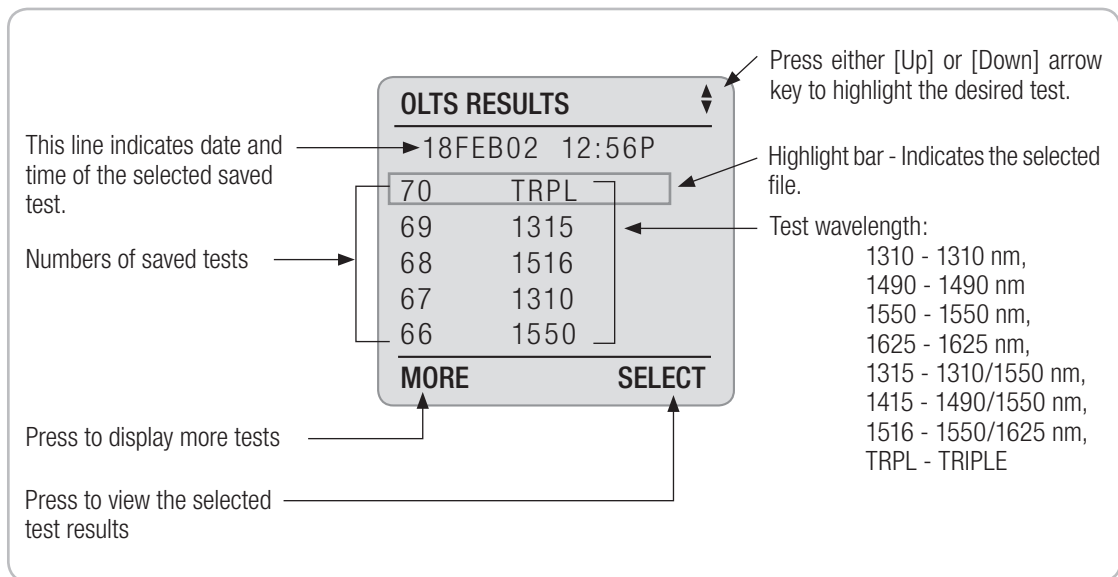

Figure 6-5. Reviewing Saved OLTS Test Results.
- 4 Press the [SELECT] soft key to access the [OLTS RESULTS] screen (refer to Figure 6-5).